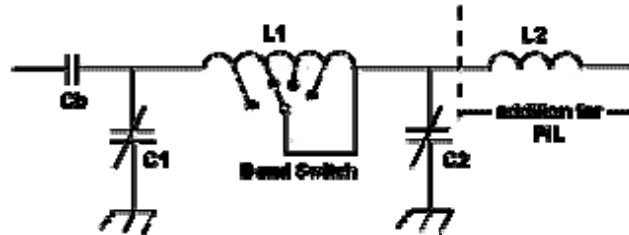

Figure-4
With the advent of lower loss coaxial cable and advancements in feeding balanced antennas with unbalance line, the "Pi" and "'Pi'-L" Output Coupling Networks have become the RF Tank Circuit of choice. In Figure-4 above, **both the "Pi" and "'Pi'-L" Networks use C1 in conjunction with L1 to properly match the Plate Load Resistance (RL). From there C2 works with L1 (and L2 in the "Pi'-L') to match the Load of the RF Transmission Feedline (normally 50 Ohm characteristic impedance coaxial cable).** The values of C1, L1, C2 and L2 should be selected for the lowest band of intended operation. Remember that the caps are adjustable from near zero to their maximum value. L1 becomes adjustable with the introduction of a rotary switch used to tap and short portions of L1, reducing its operational inductance in the process. In the "Pi'-L' network, L2 is normally a fixed inductor.